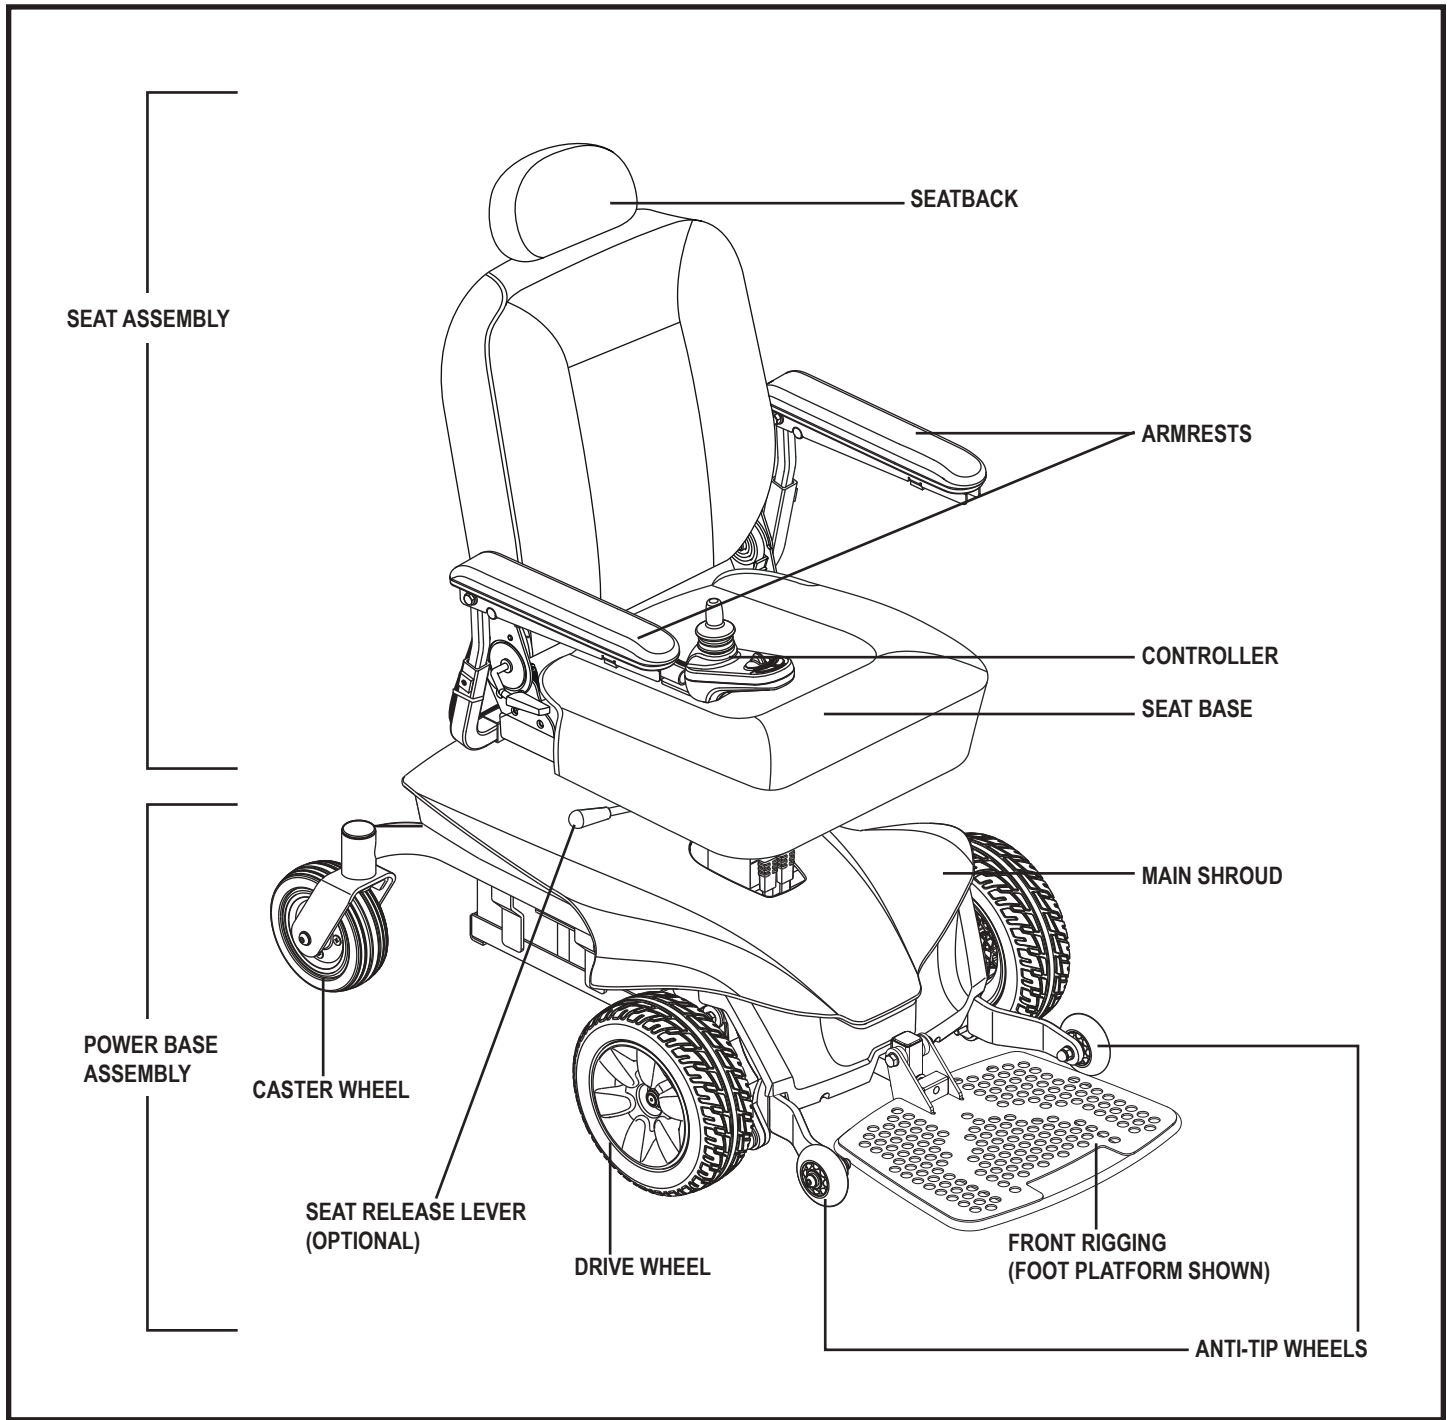
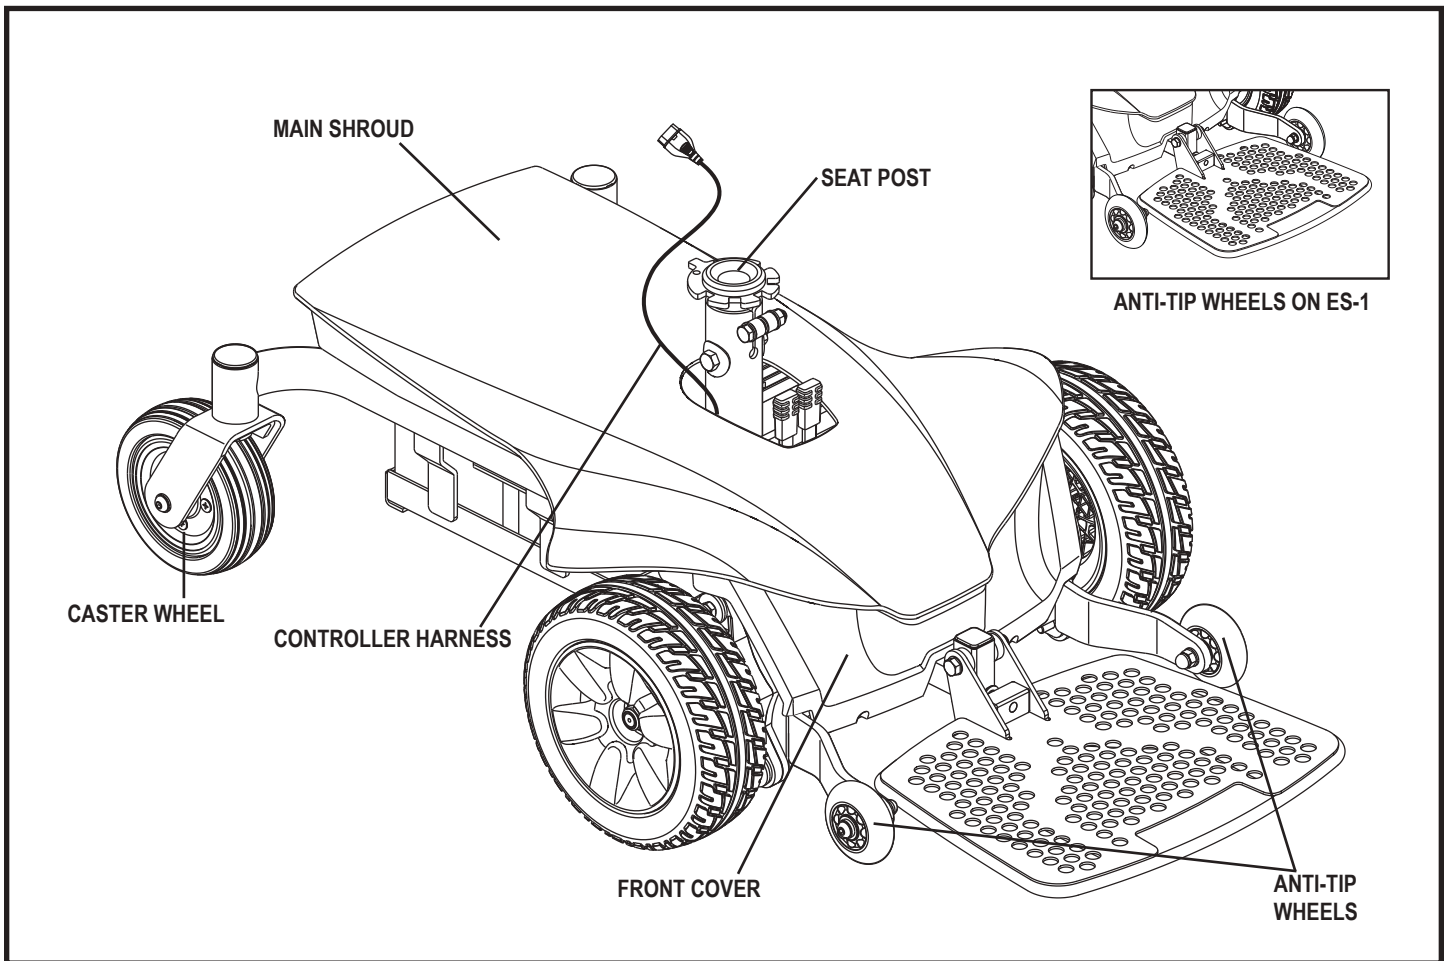

Figure 1. The Jazzy Series Power Chair (Elite ES Shown)
Figure 2. The Jazzy Series Power Base
The Jazzy Series Power Chair has two main assemblies: the seat assembly and the power base assembly. **See figure 1.** Typically, the seat assembly includes the armrests, seatback, and seat base. The power base assembly includes two motor/brake assemblies, two drive wheels, two rear caster wheels, two front anti-tip wheels, two batteries, and wiring harnesses. **See figure 2.**
6. Plug the controller harness into the connector on the power base. **See figure 2.**
4. Disengage the seat release lever, if equipped. **See figure 1.**